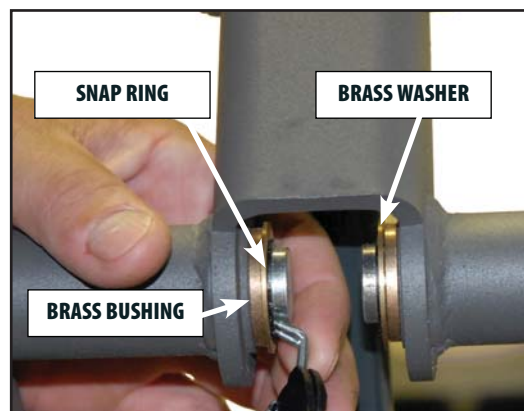

FIGURE 6.63
6. Using 90° Snap Ring pliers, separate and remove the Snap Ring securing the Slider Block Assembly. Refer to **Figure 6.63**.
NOTE: A Brass Washer may or may not be present behind the Snap Ring. If the Washer is present, remove and retain for installation. The Washer serves to remove play from the Slider Bearing Assembly. Use with the replacement if necessary to reduce the amount of play. Refer to **Figure 6.63**.